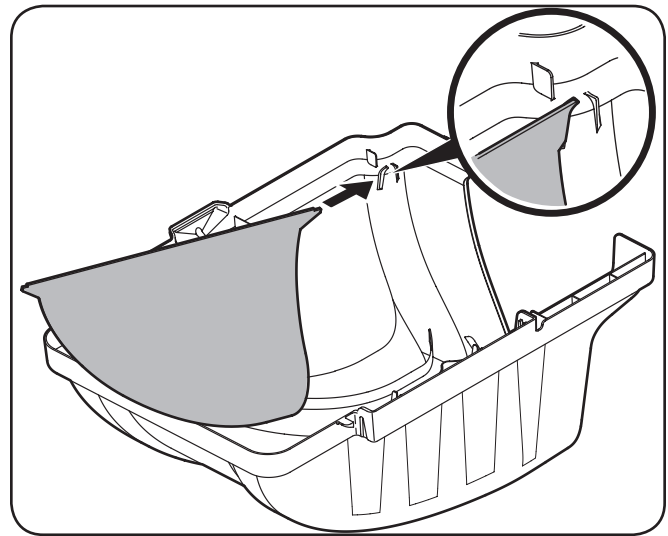
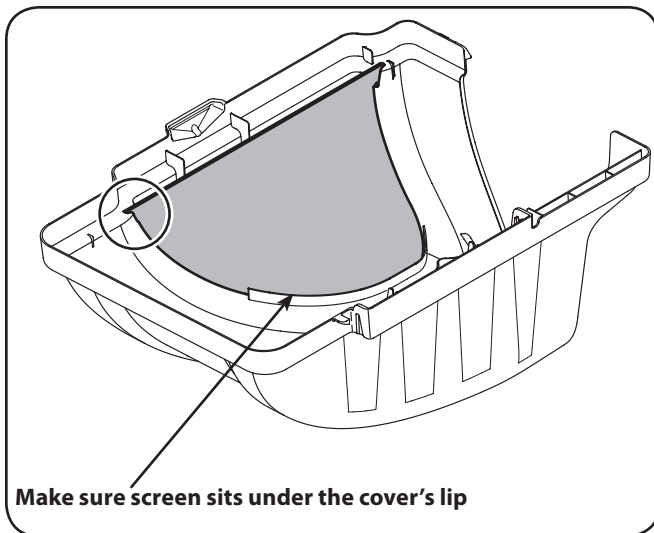

Figure 4-7
Figure 4-8
3. **If not already installed by the factory,** install the bagger screen into the bagger cover by first inserting one end into the corresponding cutout mounting hole, as in Figure 4-7. Make sure to feed the screen under the lip, as in Figure 4-8.